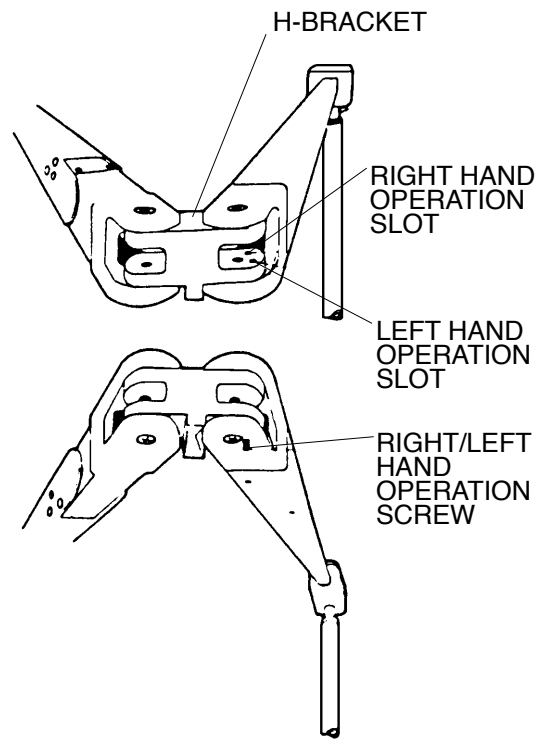

Figure 2
- 1.7 To convert to left-hand operation (See Figure 2.):